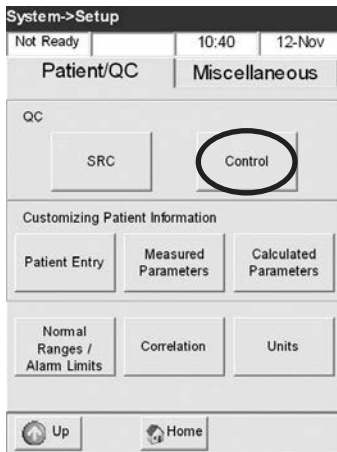

Fig. 3-9 Select Control
3. Select **<Control>** (Fig. 3-9).